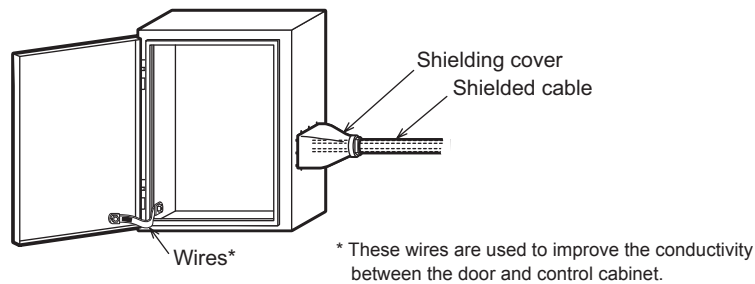

Fig.1. Control Cabinet Example
- c) To ensure that there is electric contact between the control cabinet and its door, connect the cabinet and its doors with thick wires. (See Fig. 1)
Also, wrap the cable holes with a shielding cover or other shielding devices. (See Fig. 1)